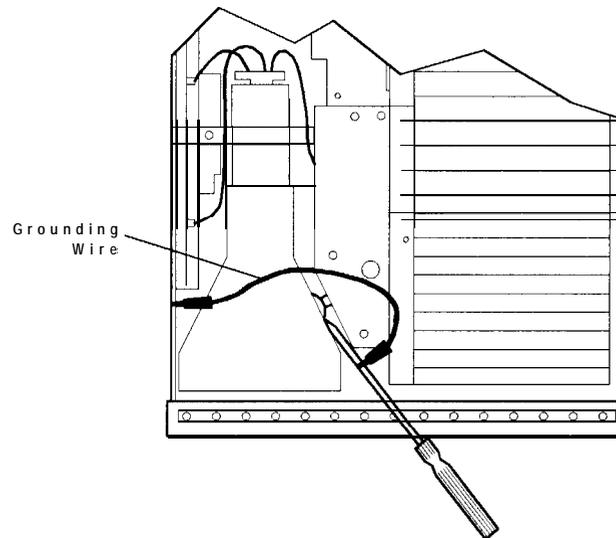

Figure 3-15. Discharging the CRT Post-Accelerator Cable
4. Slide the screwdriver's blade between the CRT and the sheet metal as shown in Figure 3-15. Gently work the tip of the screwdriver under the post-accelerator cable's rubber shroud. Make sure that the screwdriver's tip touches the connection between the post accelerator cable and the CRT. You should hear a cracking sound when the cable discharges.